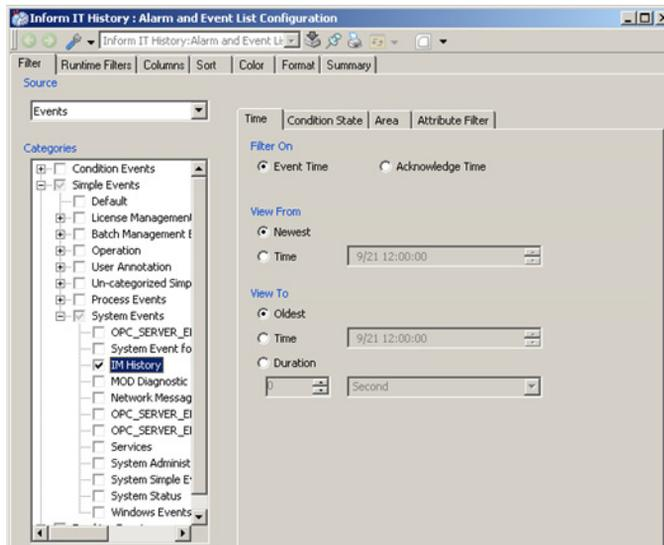

Figure 101. Alarm and Event Configuration
2. From the Configuration View of the Alarm and Event List Configuration Aspect, select **Simple Event > IM History** (Figure 101).